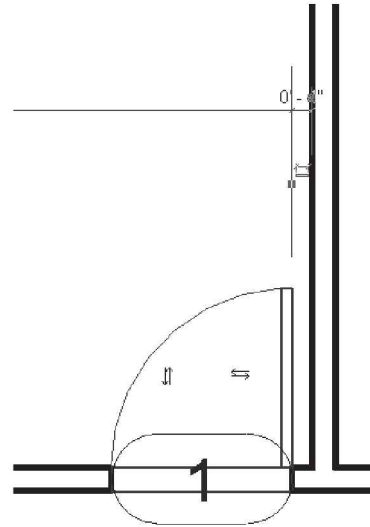

FIGURE 2-2.5 Edit door location
- Click the **witness line grips** so the temporary dimension references the right door jamb and the wall face as shown in Figure 2-2.5.
10. Click on the dimension text, type **4"** and press *Enter*. Make sure you add the inch symbol or you will get feet rather than inches (Figure 2-2.5).